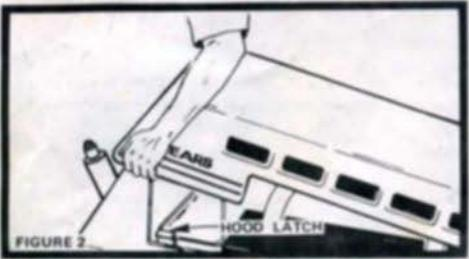

FIGURE 2
- a. Push down and slightly spread rear sides of Hood to release Hood Latches. Lift Hood from rear sides (Fig. 2).